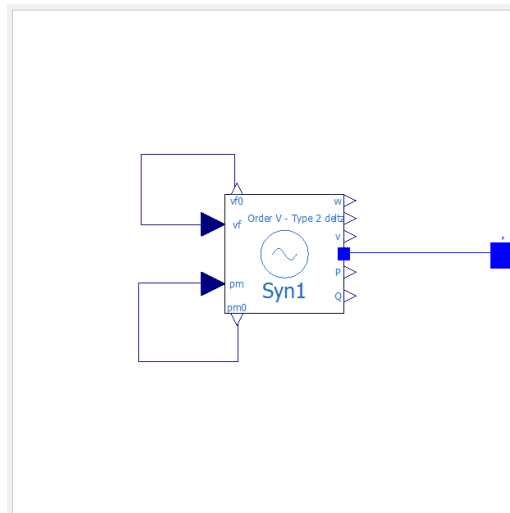

Figure 5: Gen Model
7. Save the model. Your model may look like that in Figure 5. This model can now be seen next to the libraries in the Libraries browser tab as **Gen**.